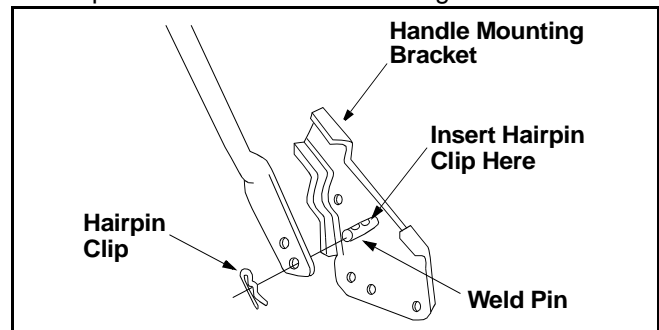

Figure 2
- Remove the hairpin clips from the outer hole in the weld pins on the handle mounting brackets. Using a pair of pliers, squeeze one leg of the lower handle against the handle mounting bracket. Insert the hairpin clip into the inner hole on the weld pin. Repeat on the other side. See Figure 2.